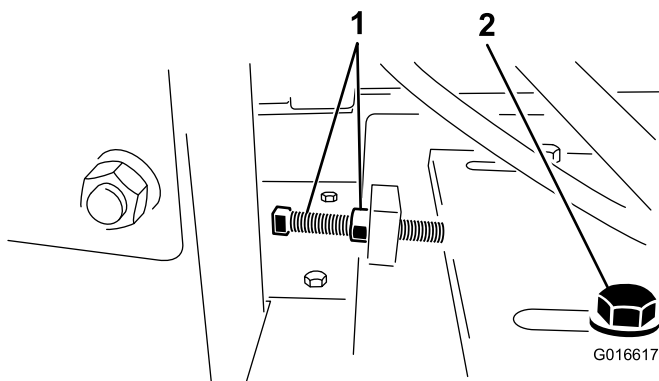

Figure 17
4. Loosen the belt tension bolt and jam nut, slide the engine toward the flywheel housing to loosen belt (Figure 17).